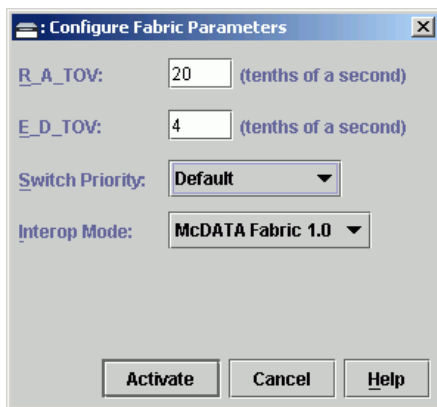

Figure 3-40 Configure Fabric Parameters Dialog Box
- d. At the *Hardware View* (Figure 3-10 on page 3-20) for the first switch reporting the problem, click *Configure* and select *Operating Parameters* and *Fabric Parameters*. The *Configure Fabric Parameters* dialog box displays (Figure 3-40 on page 3-100).
- c. At the *Hardware View* (Figure 3-10 on page 3-20) for the switch reporting the problem, click *Configure* and select *Operating Parameters* and *Fabric Parameters*. The *Configure Fabric Parameters* dialog box displays (Figure 3-40 on page 3-100).